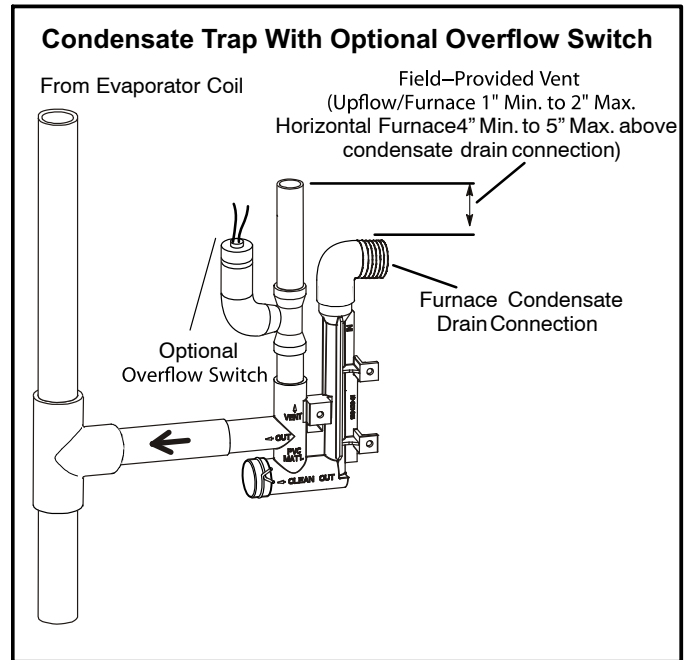
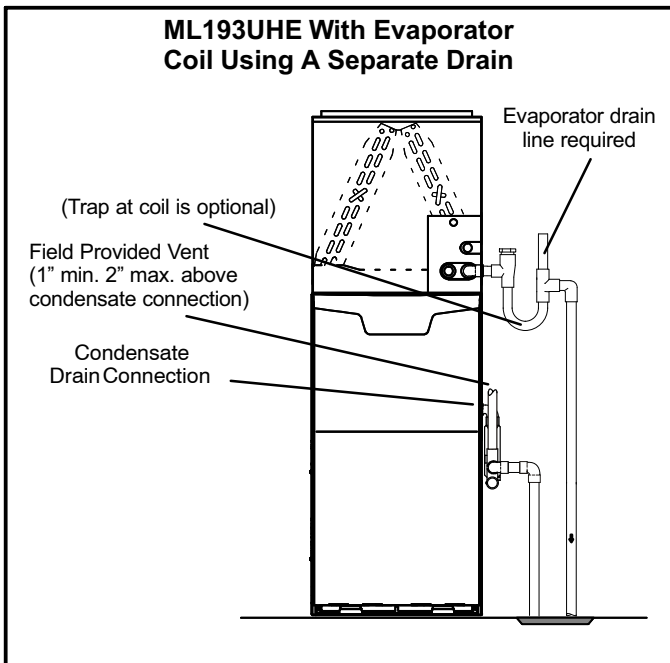

FIGURE 49
FIGURE 48
- 5 - Figures 48 and 50 show the furnace and evaporator coil using a separate drain. If necessary the condensate line from the furnace and evaporator coil can drain together. See figures 49, 51 and 52.